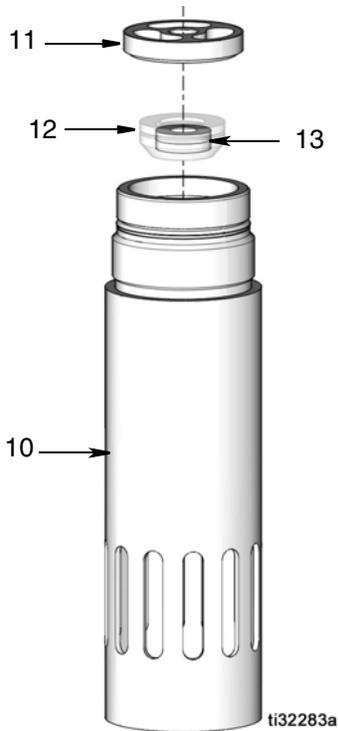

FIG. 8
- Unscrew bearing (11) from foot valve housing. Remove the poppet check (12) and inspect foot valve packings (13) (FIG. 8).